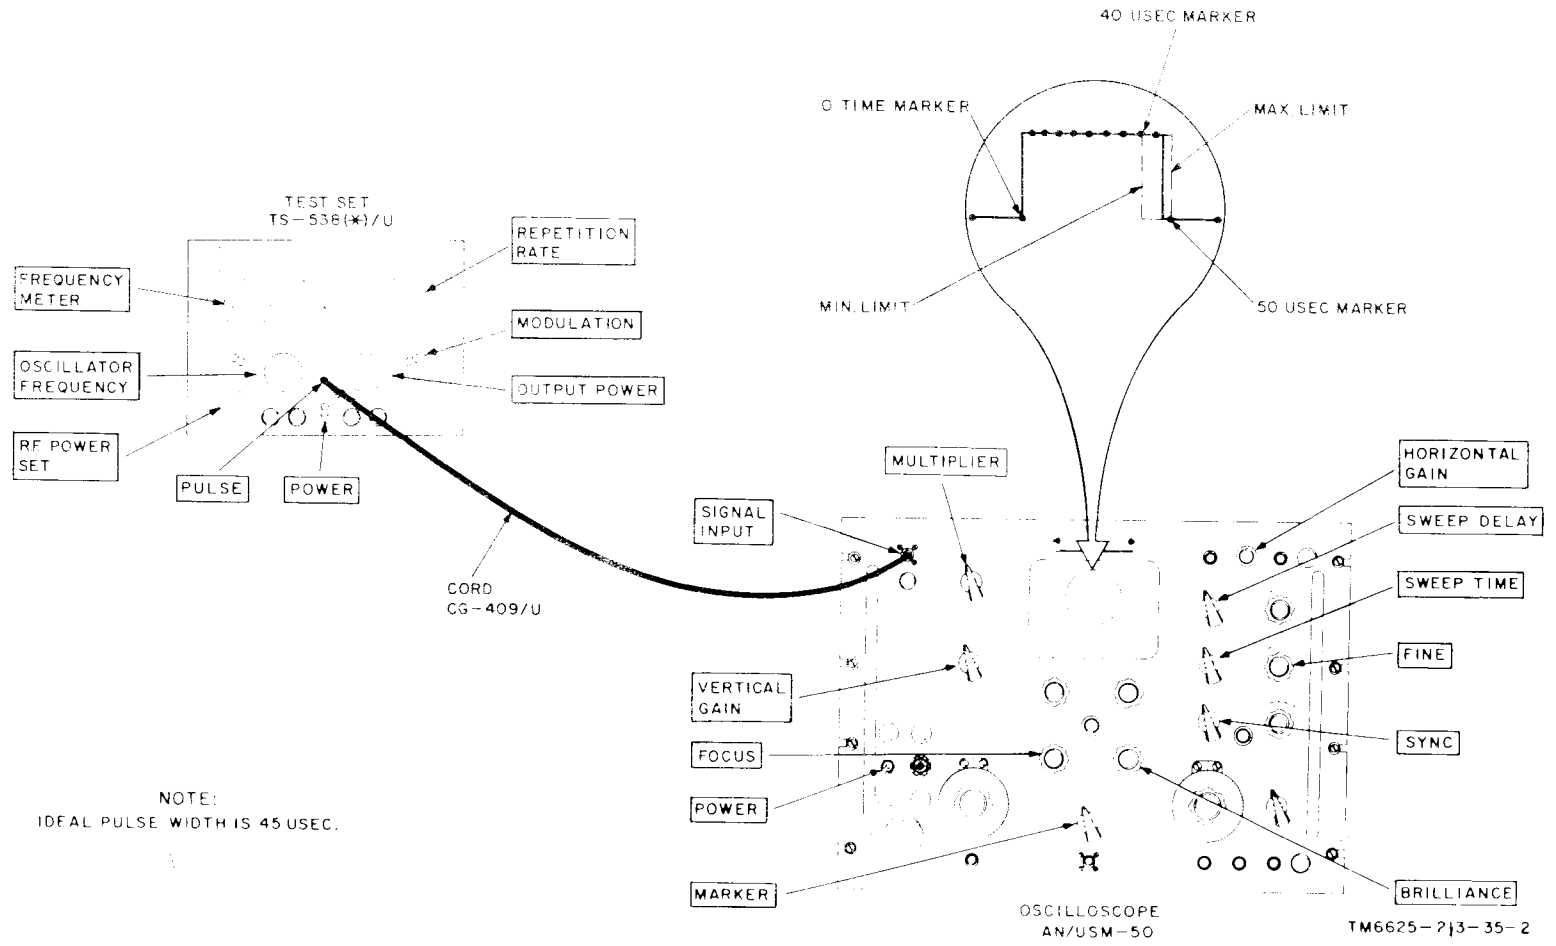

Figure 26. Modulation pulse width test connections.
*b. Test Connections and Conditions.* Connect the equipment as shown in figure 26.